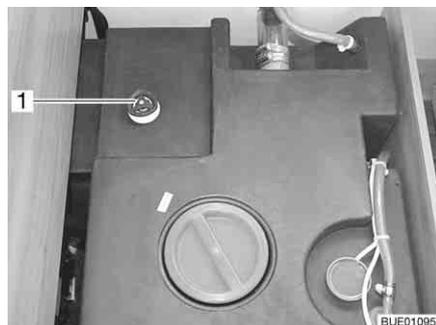

Fig. 233 Water tank with handle
- Turn the handle (Fig. 233,1) on the water tank in an anticlockwise direction as far as possible beyond the resistance to fully open the drainage opening.